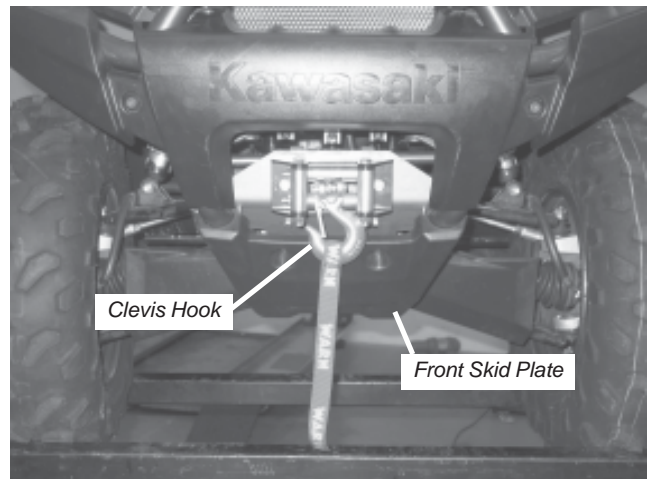

Figure 7 Complete Winch Installation
7. Switch the winch clutch to freespool. Manually feed the winch cable through the roller fairlead. Attach the clevis hook to the end cable loop, Figure 7. Reinstall front skid plate with original hardware from step 1 and securely tighten.
Winch and winch mount installation is now complete and should look like Figure 7. Proceed to section IV, entitled "Specific KVF750 Wiring Instructions".